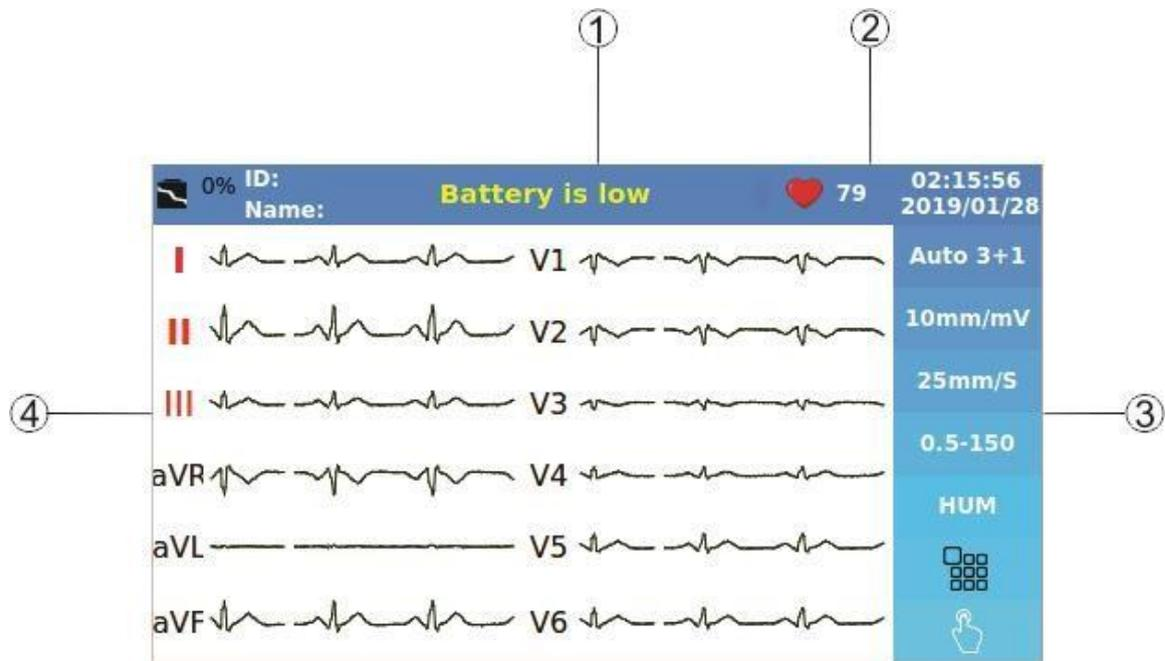

Figure 2-2 Display Screen
EM650 is equipped with a TFT color screen. All 12-lead ECG waveform, HR value, Patient name/ID, Date and Time, system operating status, error and informative messages are displayed on the screen. The screen is divided into four areas: informative and system error messages area (Figure 2-2- ①), Header area (Figure 2-2- ②), touch keys area (Figure 2-2- ③), Waveform/ Menu area and lead error message area (Figure 2-2- ④).
All electrodes connection is checked regularly by the system and in case of improper connection, the related message will appear in this area in red (Figure 2-2-④).
2- Informative and system error messages area (Figure 2-2-①).